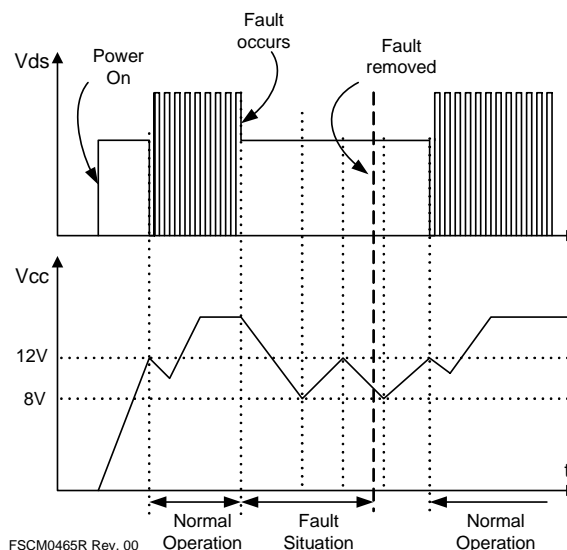

Figure 20. Auto Restart Operation
**3. Protection Circuit:** The FSCM0465R has several self-protective functions, such as overload protection (OLP), over-voltage protection (OVP) and thermal shutdown (TSD). Because these protection circuits are fully integrated into the IC without external components, the reliability is improved without increasing cost. Once the fault condition occurs, switching is terminated and the SenseFET remains off. This causes  $V_{CC}$  to fall. When  $V_{CC}$  reaches the UVLO stop voltage of 8V, the current consumed by the FSCM0465R decreases to the startup current (typically 20 $\mu$ A) and the current supplied from the DC link charges the external capacitor ( $C_a$ ) connected to the  $V_{CC}$  pin. When  $V_{CC}$  reaches the start voltage of 12V, the FSCM0465R resumes normal operation. In this manner, the auto-restart can alternately enable and disable the switching of the power SenseFET until the fault condition is eliminated (see Figure 20).